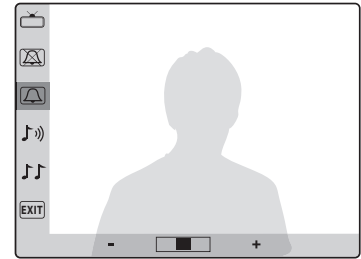
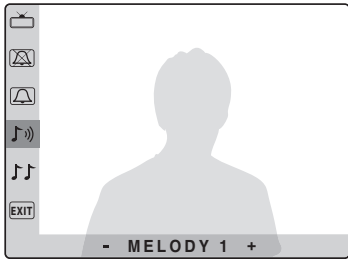
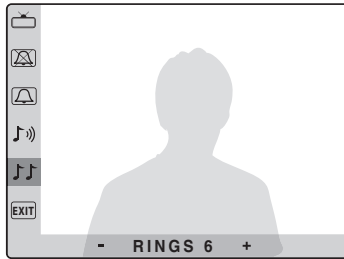

Fig.1b
Fig.1c
Fig.1d
Proceed in the same way for the other programming options: **call tone volume** (3 level Fig.1b), **melody** (9 options Fig.1c) and **number of rings** (for 1 to 9 Fig.1d).
- To reject the call without informing the visitor press the button Fig1c